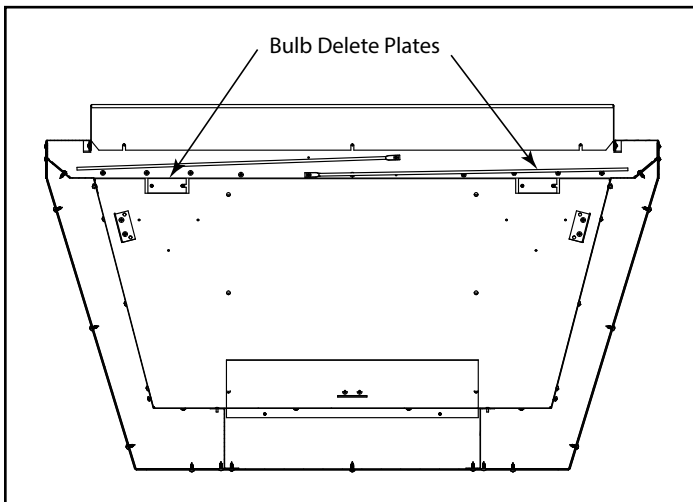

Figure 3 - Bulb Delete Plates
4. Remove bulb delete plates on left and right side at front of firebox. See Figure 3.